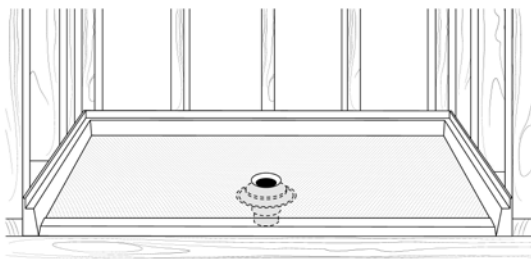

figure 7
3. The plumber can now connect the pan drain and the floor drain. (see figure 7)